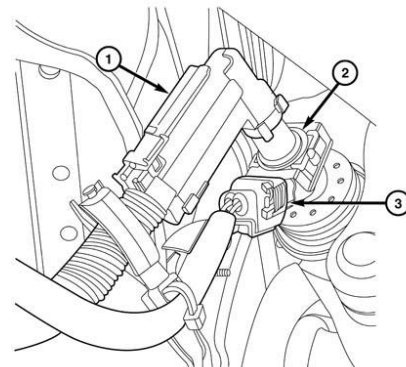

Figure 1 – DEF Injector Harness
5. Disconnect the Diesel Exhaust Fluid (DEF) injector wire harness connector (3) (Figure 1).
6. Disconnect the DEF fluid supply line (1) (Figure 1).